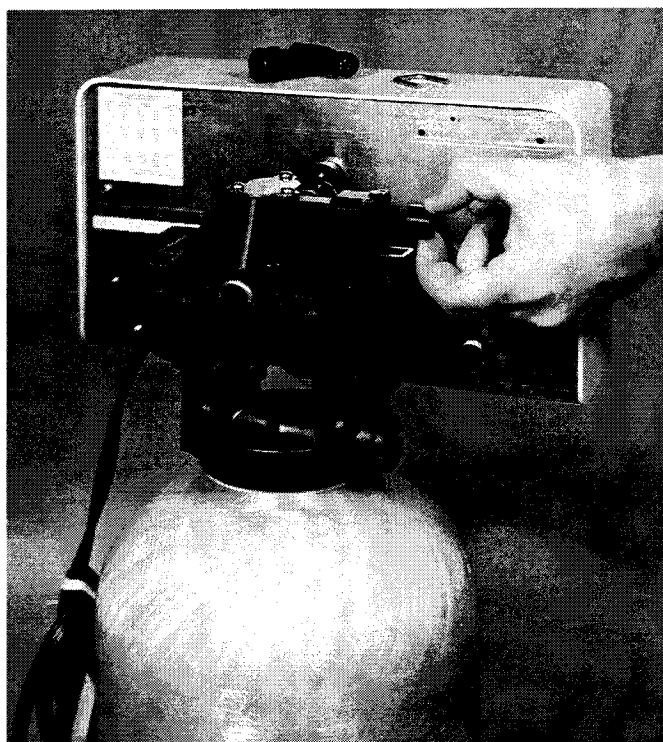

Fig. 18
The RM-10 and RM-10D require a backwash flow control to prevent expulsion of media at the drain. Refer to Fig. 18 and proceed as follows:
- Insert the flow control with the number toward the control valve (Fig. 18).